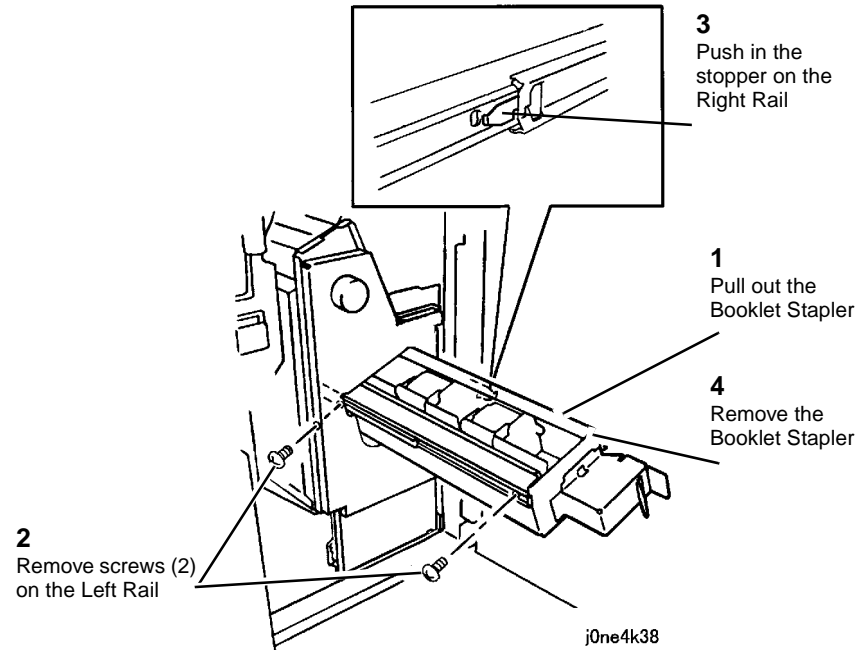

Figure 1 Removing the Booklet Stapler
4. Remove the Booklet Stapler (Figure 1).